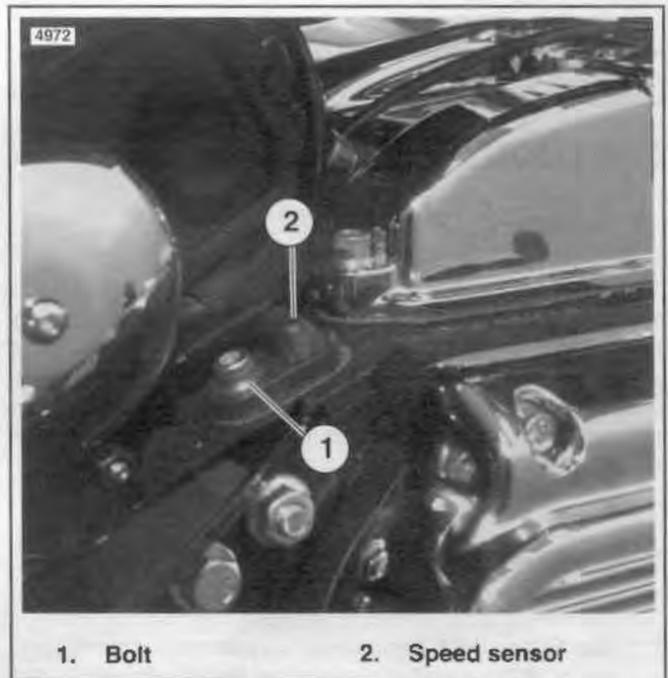

Figure 8-52. Electronic Speedometer Speed Sensor
6. See Figure 8-52. Remove sensor mounting screw and lift sensor from crankcase.